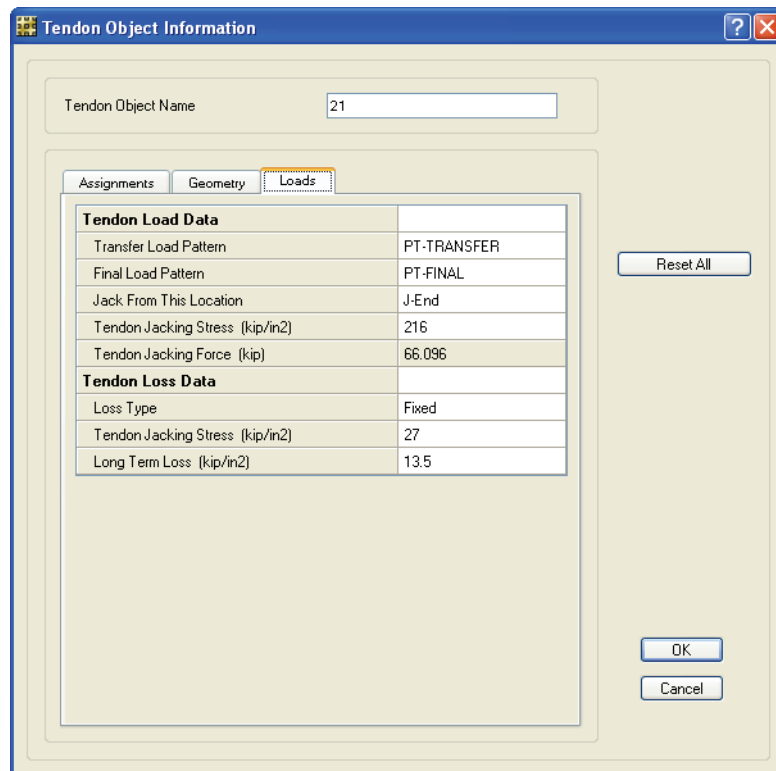

Figure 81 Tendon Object Information form
- U. Highlight the tendon object and click the **OK** button. Because a right click action initiated the selection process, a Tendon Object Information form similar to the one shown in Figure 81 will display.